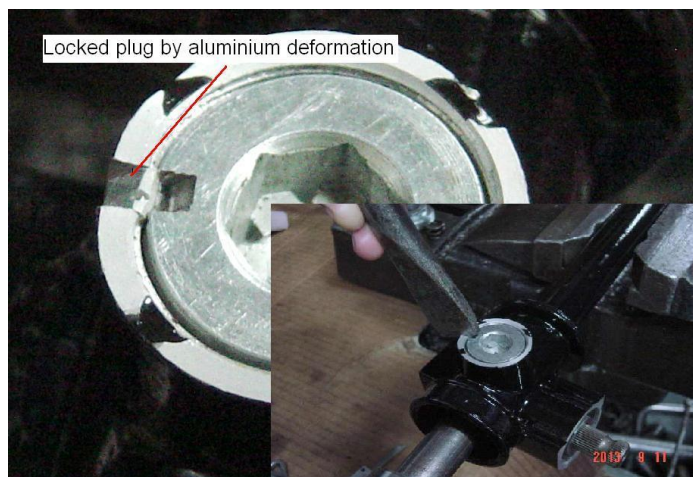

Figure 2 Unlocking and relocking the plug
3. Release the plug by knocking back the outer casing where it has been deformed into the plug. See figure 2